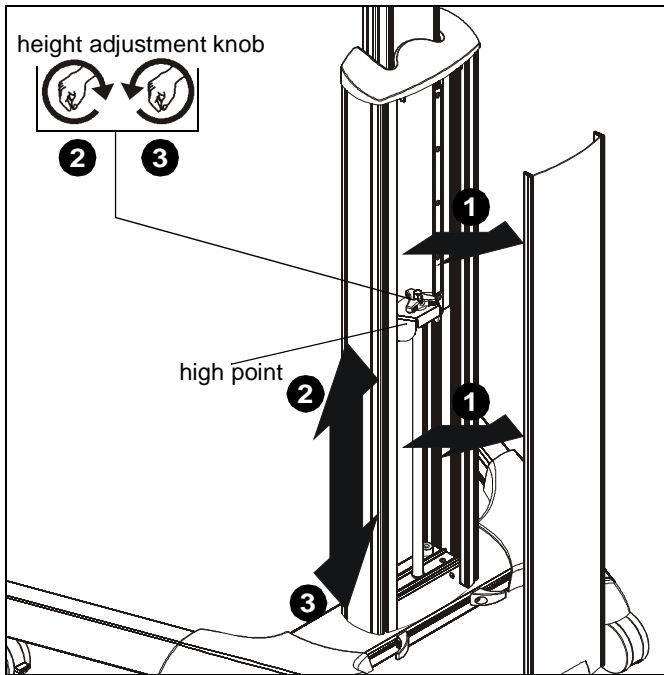

Figure 13
1. Remove cable cover (G) to expose height adjustment knob.
2. Turn height adjustment knob clockwise to raise display. (See Figure 13)
3. Turn height adjustment knob counterclockwise to lower display. (See Figure 13)
WARNING: Do not attempt to raise or lower the adjustment carriage beyond its upper or lower limit. High and low points are shown in Figures 13 and 14.